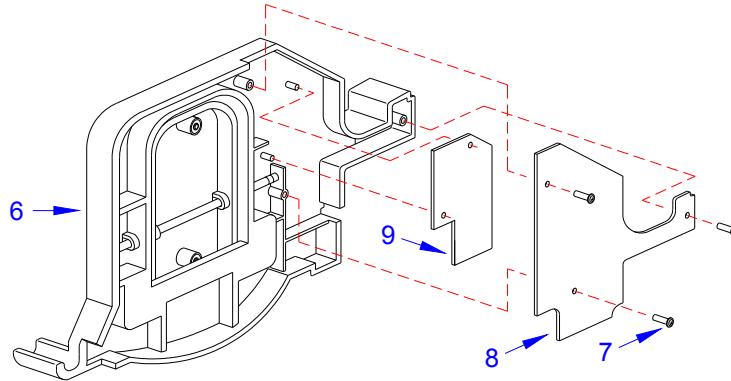

Figure 4-7b, Relay Board Replacement
- 6 Remove the three screws (7) (See Figure 4-7b) securing the cover (8) to the left-side media holder (6).
- 7 As the main signal cable of the relay board (9) is soldered on, you need to disconnect the other end of the cable from the main board by the following steps.